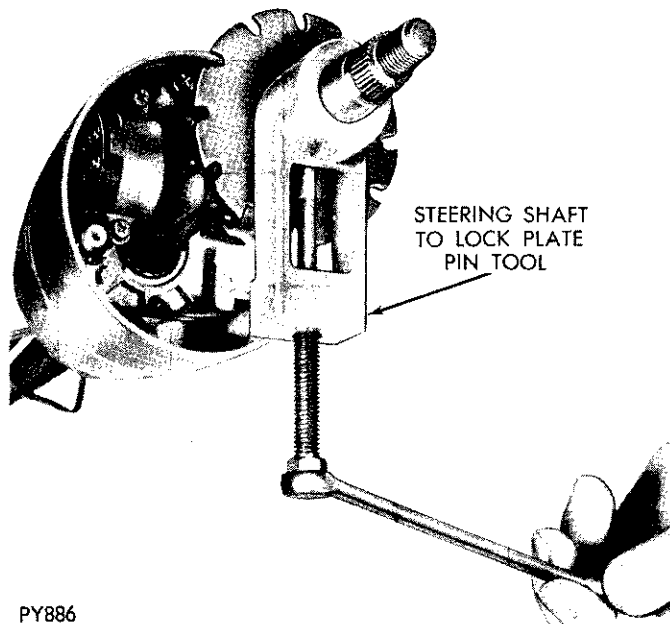

Fig. 8—Lock Plate Pin—Removal or Installation
- (3) Remove bearing lower snap ring from shaft.
- (4) Pry sleeve off steering shaft lock plate hub to expose pin.
- (5) Install Tool C-4113 on steering shaft lock plate hub to press pin out of shaft, **DO NOT HAMMER** (Fig. 8).
- (6) Remove tool and lock plate from shaft.
- (7) Remove shaft through lower end of column.